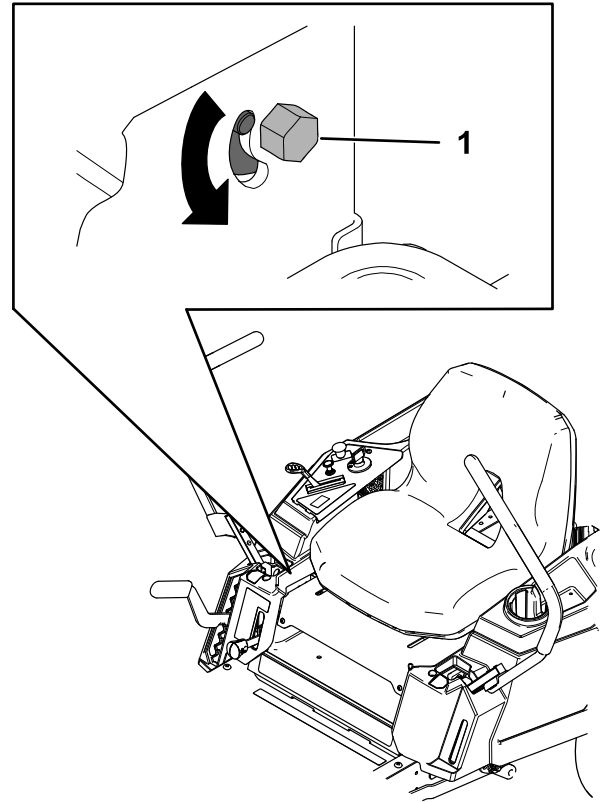

Figure 46
3. Locate the tracking-adjustment bolt near the motion-control lever on the particular side that needs adjusting (Figure 46).